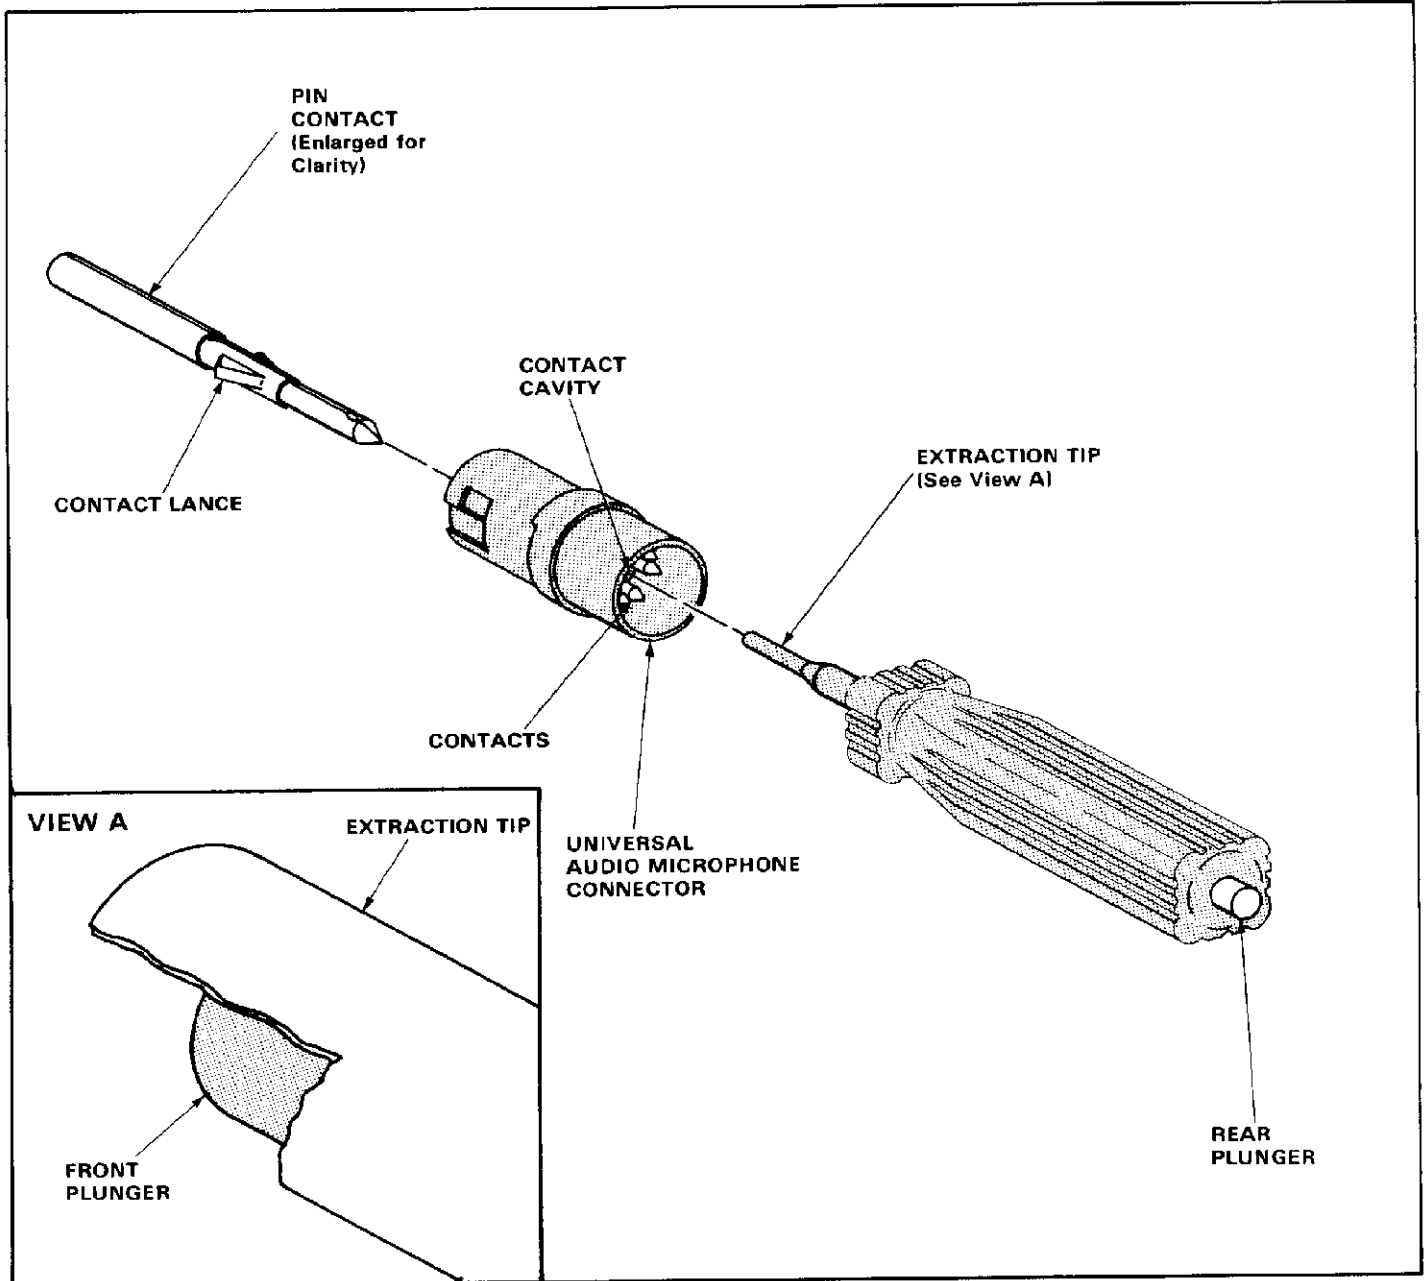

Fig. 1
This instruction sheet covers the AMP Extraction Tool 91144-1 which is used for removing pin contacts from AMP Universal Audio Microphone Connectors. See Figure 1.
3. EXTRACTION PROCEDURES (see Figure 1)